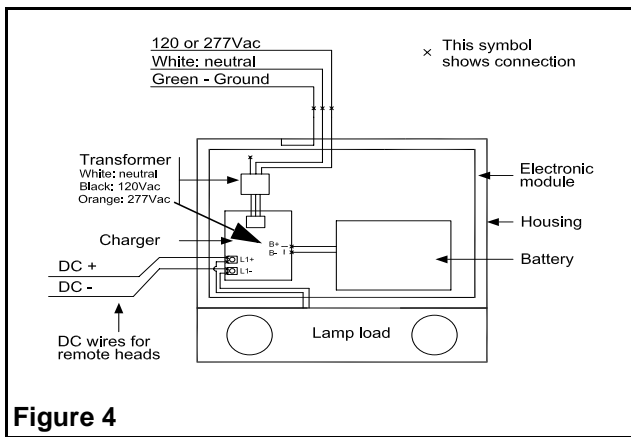

Figure 4
- a. Remove the lens-legend (3). Disconnect the lamps from terminal block (see fig 4) and remove the electronic module (3). Four screws secure the electronic module to the housing.
Auto-diagnostic models (refer to figure 4.):